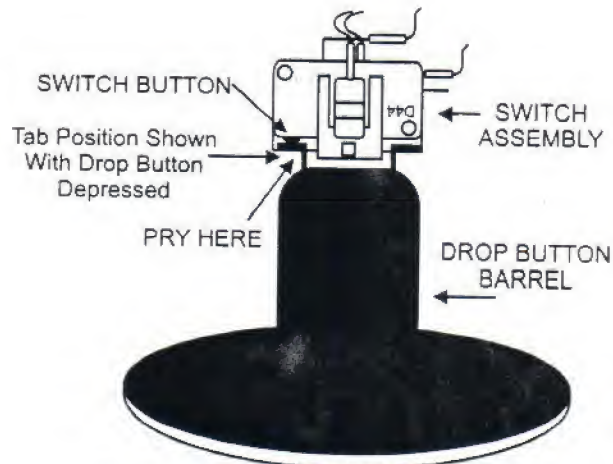

Fig 27. Drop Button Switch Assembly
4. Look down into the area directly behind the Drop Button and depress the button once more. You will see a small white tab near the left edge of the black tube move toward the rear of the machine and depress a tiny red switch. (See Fig 27) If the white tab does not go far enough back to depress the switch...